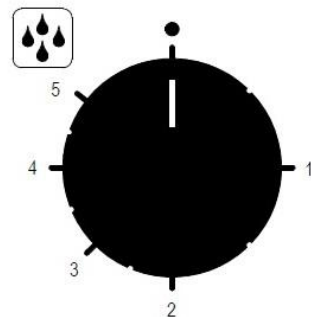

Fig.7
**Humidity/steam quantity programming (pre-set models only)** - To generate humidity/steam during oven operation (hot cooking chamber), turn the automatic humidifier knob (Fig.7) to the desired value (1 to 5). Turning the knob to the - (off) position stops the humidifier.